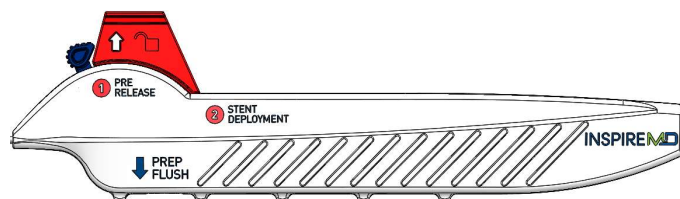

Figure 3 Delivery System handle
- Inspect the delivery system handle for any damage (see Figure 3)